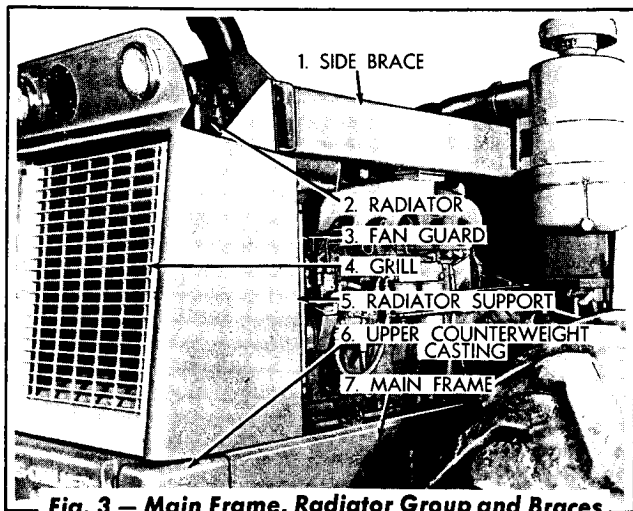

Fig. 3 — Main Frame, Radiator Group and Braces with Hood and Side Panels Removed
1. Remove the side panels and the hood (Fig. 3).
2. Remove the grill (Fig. 3) from the rear of the radiator support. Remove the fan guard from the front of the radiator support.